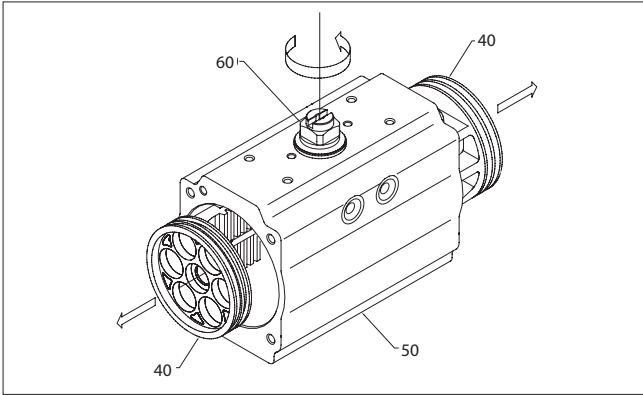

Figure 6.
C. Remove end-cap o-rings (14) and discard if replacing all soft parts.
**4. Piston (40) Disassembly, (Figure 6):**
- A. Holding the body (50) in a vice (or similar device), rotate the drive shaft (60) until the pistons (40) are released.
- B. Remove piston o-ring seal (16) using a screwdriver. Remove the piston head (15) and piston back (5) bearings. Discard bearings if replacing all soft parts.